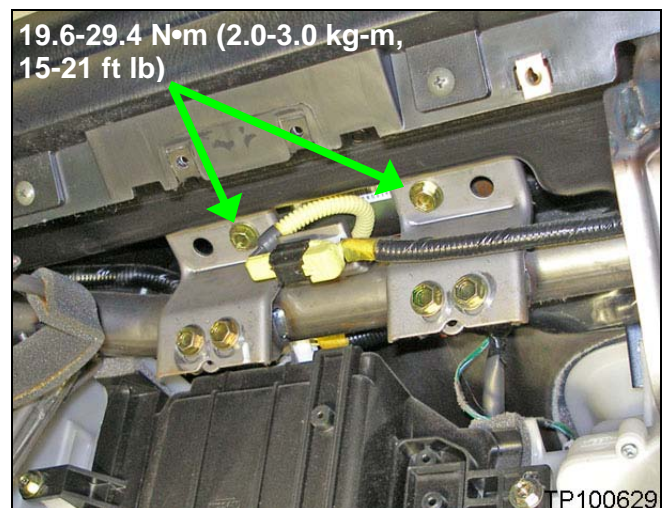

Figure 5
3. Secure the module to the steering member. See Figure 5.
- Use the two (2) new fasteners (hex bolts) supplied with the module.